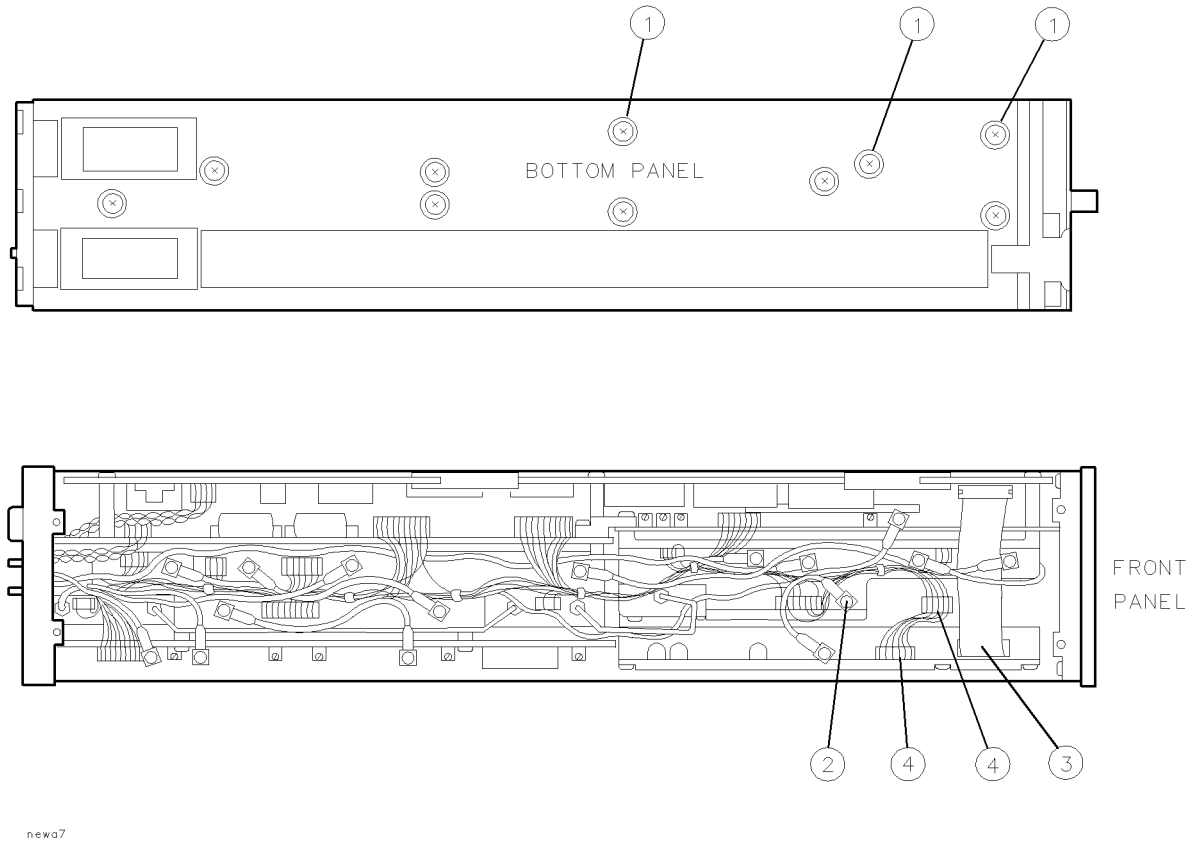

Figure 9-13.
1. Remove three screws ① while the module rests on its right side. See Figure 9-13.
2. Disconnect W3 ② and W1 ③ from the A7 FRAC'N synthesizer.
3. Disconnect the two A11 wiring harness connectors ⑤ and the W14 ribbon cable ④.